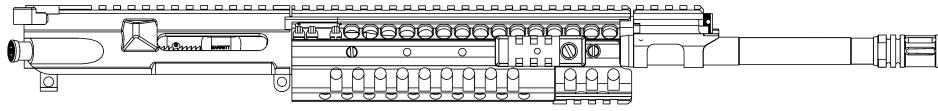

Figure 18-1
1. The upper assembly (Figure 18-1).